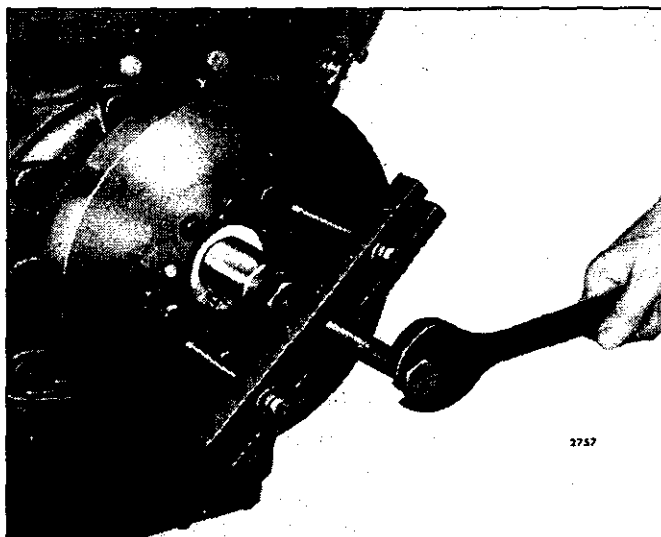

Fig. 2 - Removing Vibration Damper Outer Cone
4. Attach puller J 24420 to the vibration damper hub, as shown in Fig. 2, with two long bolts threaded into the two 3/8"-24 tapped holes provided in the hub. Pull the damper and hub assembly, together with the outer cone, until the outer cone is loose on the crankshaft.